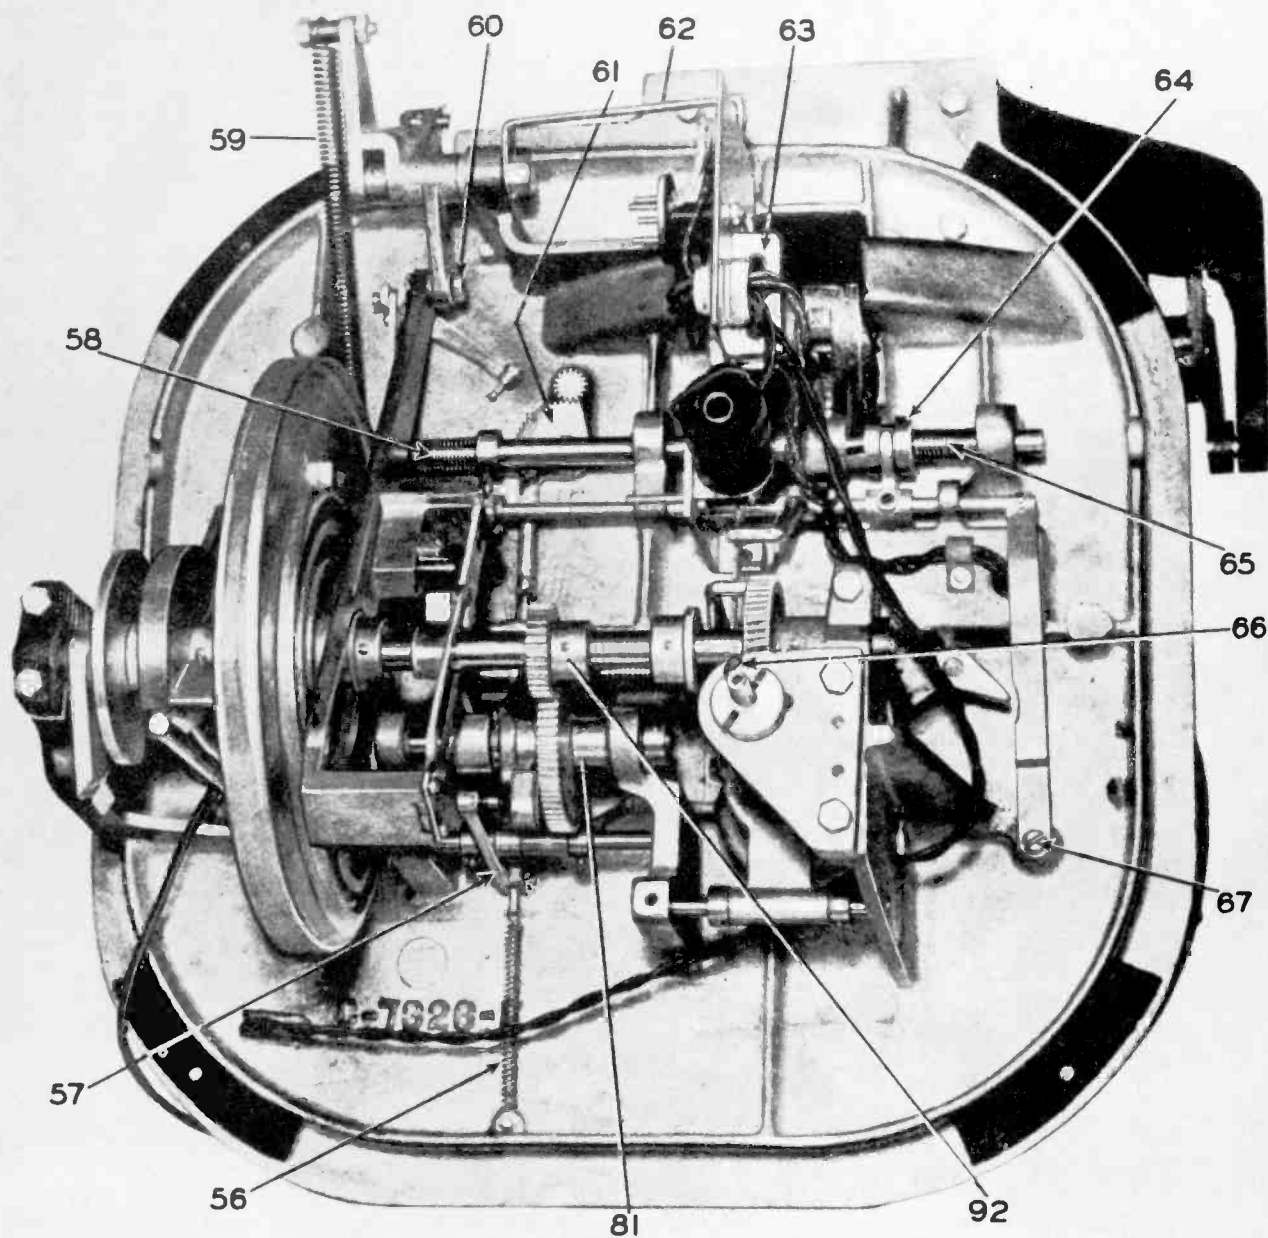

Fig. 3
In assembling the record tray to the record changer, the first tooth of the driver quadrant (107) (Fig. 3) should mesh with the second tooth of the driven quadrant of the tray as shown.
13. TO ADJUST REVERSE CAM ARM AND ROLLER ASSEMBLY (57) (Fig. 3).
1. Set record changer in the playing position. Carefully mark the drive gear (92) (Fig. 3) on the main shaft and the driven gear as shown 81, Fig. 3, by prick punch marks or scribe, so that the same teeth can be engaged after re-assembly, thus insuring proper timing.
2. Remove the two bolts, one (60) (Fig. 3) securing the magazine slide and roller assembly to the magazine slide arm lever, and one (15) (Fig. 1) securing the record slide arm and stud assembly to the record tray drive crank.